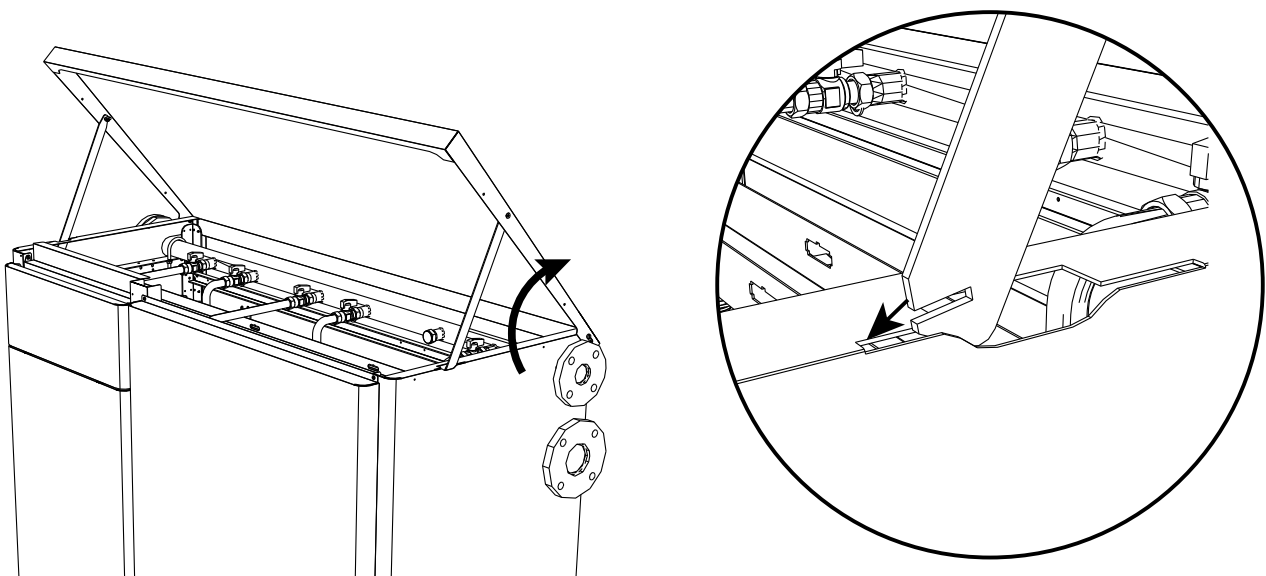

fig. 89
3. Hook the bracket (see fig. 89)